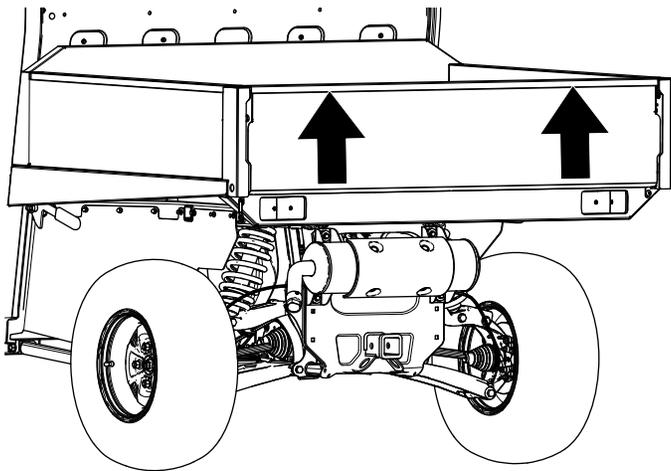

Figure 12
2. Using both hands, raise the tailgate using the ridge near the top of the tailgate (Figure 12).